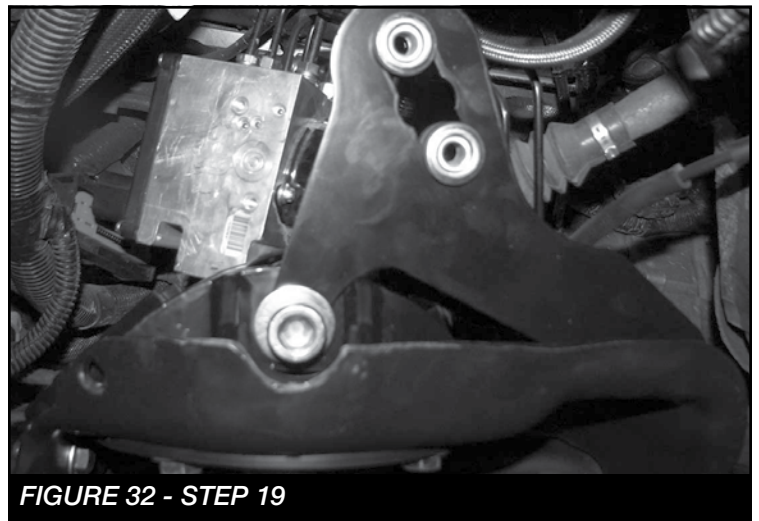

FIGURE 32 - STEP 19
19. Locate and install the misalignments into the top of the coilover. Install the FT44311BK (upper coilover mount driver) and FT44314 (ABS Bracket) to the Fabtech coilover using the supplied 5/8" x 4" button head bolt and hardware. **LEAVE LOOSE.** **NOTE: The resi hose needs to be oriented towards the rear of the vehicle.** **SEE FIGURE 32**